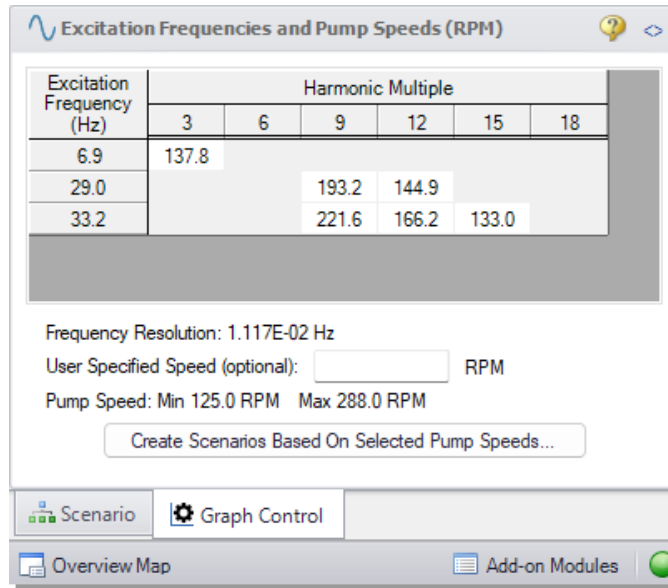

Figure 6.20 Pump RPM Evaluation Panel with Excitation Frequencies and their Harmonic Multiples Displayed in the bottom of the Quick Access Panel
3. Select “Evaluate Excitation Frequency” to add this frequency to the Pump RPM Evaluation panel, which is labeled with “Excitation Frequencies and Pump Speeds (RPM)”. Repeat steps 1 through 3 for the local maxima around the frequencies of 29.0 Hz and 6.9 Hz. The panel should now appear as shown in Figure 6.20.